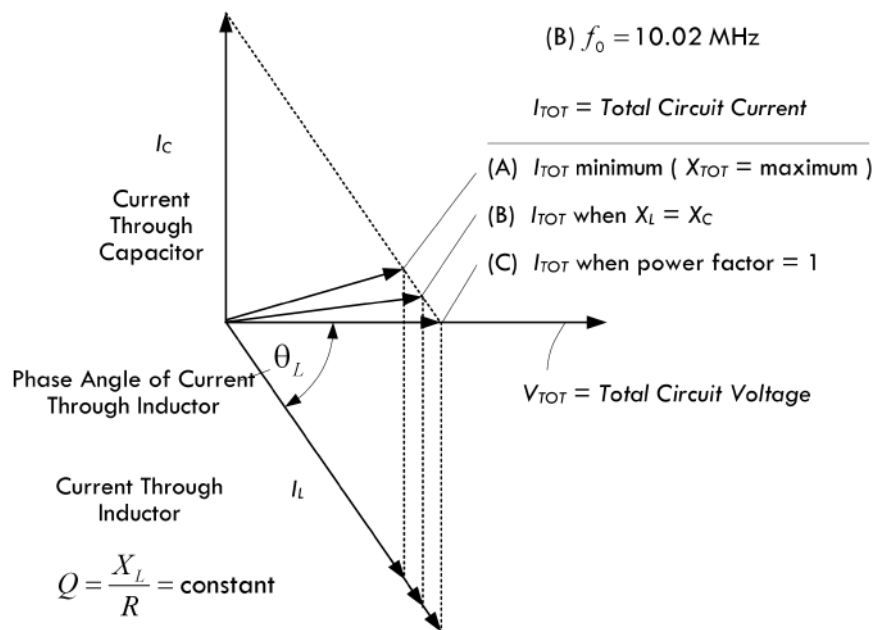

FIGURE 2.181
Unlike the ideal LC parallel resonant circuit we saw in Fig. 2.177, the addition of R changes the conditions of resonance. For example, when the inductive and capacitive reactances are the same, the impedances of the inductive and capacitive legs do not cancel—the resistance in the inductive leg screws things up. When $X_L = X_C$, the impedance of the inductive leg is greater than X_C and will not be 180° out of phase with X_C . The resultant current is not at a true minimum value and is not in phase with the voltage. See line (A) in Fig. 2.181.
Now we can alter the value of the inductor a bit (holding Q constant) and get a new frequency where the current reaches a true minimum—something we can accomplish with the help of a current meter. We associate the dip in current at this new frequency with what is termed the standard definition of RLC parallel resonance. The point where minimum current (or maximum impedance) is reached is called the *antiresonant point* and is not to be confused with the condition where $X_L = X_C$. Altering the inductance to achieve minimum current comes at a price; the current becomes somewhat out of phase with the voltage—see line (B) in Fig. 2.181.
It's possible to alter the circuit design of our RLC parallel-resonant circuit to draw some of the resonant points shown in Fig. 2.181 together—for example, compensating for the resistance of the inductor by altering the capacitance (retuning the capacitor). The difference among the resonant points tends to get smaller and converge to within a percent of the frequency when the circuit Q rises above 10, in which case they can be ignored for practical calculations. Tuning for minimum current will not introduce a sufficiently large phase angle between voltage and current to create circuit difficulties.